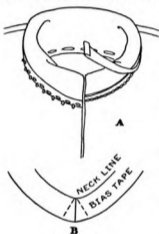
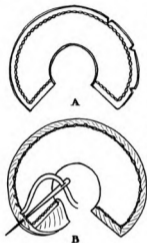
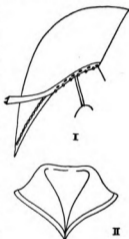

FIGURE 146
FIGURE 149
FIGURE 151
**36. Non-Convertible Collar.** *Attached Collar* (Figure 146). — Establish the center back of the collar and neckline. Place the underside of the collar to the right side of the garment and pin in place. Regardless of where the ends of the collar come on the front of the neckline, the ends should exactly meet. Baste around the entire neckline. The collar may be joined to the neckline by bias facing, flat fell seam, or a plain seam (A). The bias
different widths of fabric in the stand-up collar. The high stand-up collar is cut on a curve, following the contour of the neckline so that it will fit snugly at the neck. It is not cut on the fold. Place the two right sides of the fabric together and cut, allowing a  $\frac{1}{4}$ -inch margin on all sides to be seamed. Stitch  $\frac{1}{4}$  inch from the raw edge, clip corners, and turn to the right side. Baste and press the seam so that the fold comes exactly to the line of stitching. Follow directions for attaching non-convertible collars (Figure 146).
*Peter Pan Collar* (Figure 149).— This collar may be made either single or double, although the double is more desirable. For the double collar, place the two right sides of the fabric together and cut, allowing  $\frac{1}{4}$  inch on all edges to be seamed. Baste and stitch  $\frac{1}{4}$  inch from the raw edge (A). Clip the seam in about five places and turn to the right side. Baste and press so that the plain seam comes exactly on the fold. If the single collar is used, the outer edge may be finished by picoting, binding, or hemming (B). Decorative stitches, lace, or trimming may be applied. Follow the method of attaching non-convertible collars (Figure 146).
rolled collar is cut with more of a curve at the neckline to insure the desired roll. Follow directions for attaching the non-convertible collar (Figure 146).
*Shawl Collar* (Figure 151). — The shawl collar has almost a straight line at the neckline, which makes it roll high and fit snugly at the back of the neck. Place the center back of the collar on the fold of the fabric. If the shawl collar is made double, place the two right sides of the fabric together. Cut and stitch around the outside of the collar  $\frac{1}{4}$  inch from edge. If the fabric does not have body, the collar should be basted to a piece of stiff paper before being stitched. Remove bastings and paper, turn to the right side, and press so that the plain seam is exactly on the fold. To attach, follow the directions given for attaching the non-convertible collar (Figure 146).